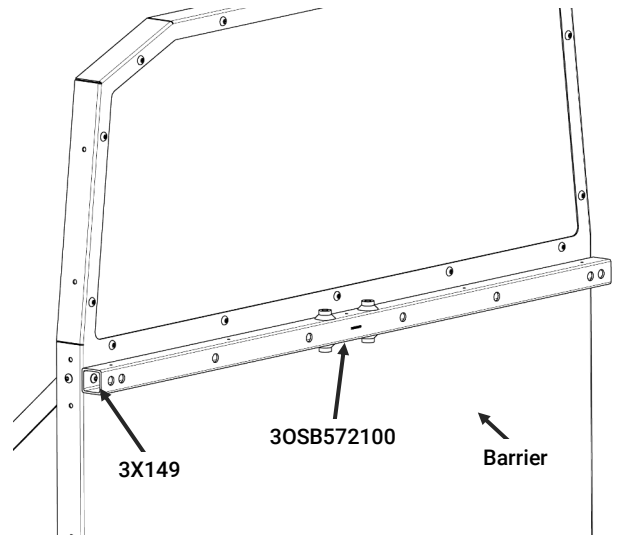

Figure 1
- A. Locate the OSB / Seat Bar [3OSB572100], (4) 5/16" button head screws [3X149], and (4) 5/16" whiz nuts [3X619].
- B. Remove the (4) button head screws [3X149] from the front of the Barrier holding the rear L-brackets on. Try to keep the L-brackets in place as it will ease reinstallation of these fasteners later.
- C. Orient the OSB Bar [3OSB572100] such that the (5) smallest holes face upward and the (8) largest holes face the front of the vehicle.
- D. Attach the OSB Bar to the barrier with the (8) total button head screws and (8) whiz nuts. Insert the screws from the front of the vehicle through the large holes in the OSB bar and fasten with the whiz nuts on the back side of the barrier (Fig. 1).